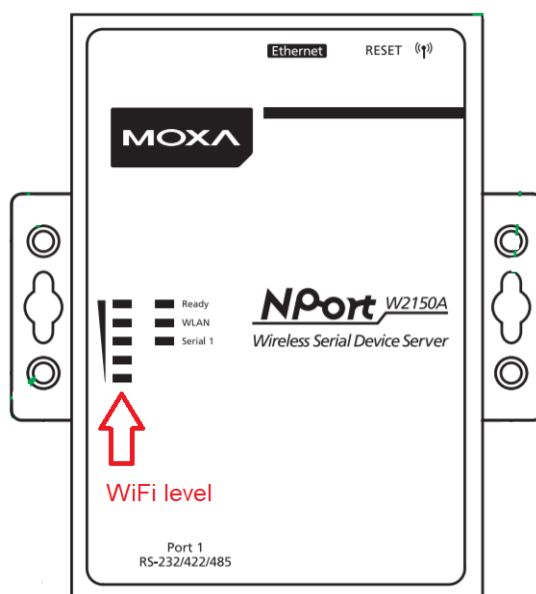

Figure 30
- Wait for green led named “Ready” and WLAN. The 4 green leds indicate the level of radio WiFi signal. (see Figure 30)